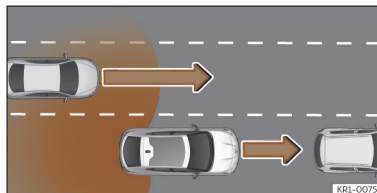

Fig. 150 Overtaking with traffic behind the vehicle.
- When being overtaken by another vehicle >>> **Fig. 150**.